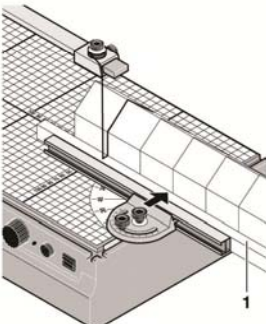

Fig. 6
- Small sections of long profiles can best be cut by laying a waste piece **1** (Fig. 6) between the stop and the work piece and then cutting against the stop. The cutting wire then cuts into the waste piece and the edges remain clean.